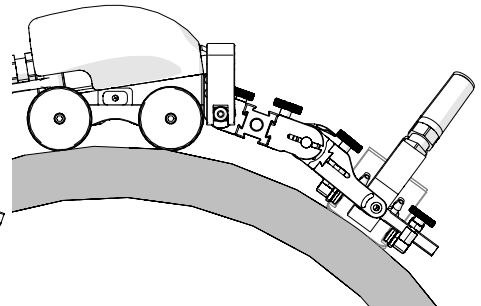

Fig. 99 - Parallel with scan surface tangent
6. Lower the probes to the scan surface (see *Probe Holder Adjustment* on page 13) to begin the scan process (Fig. 99).